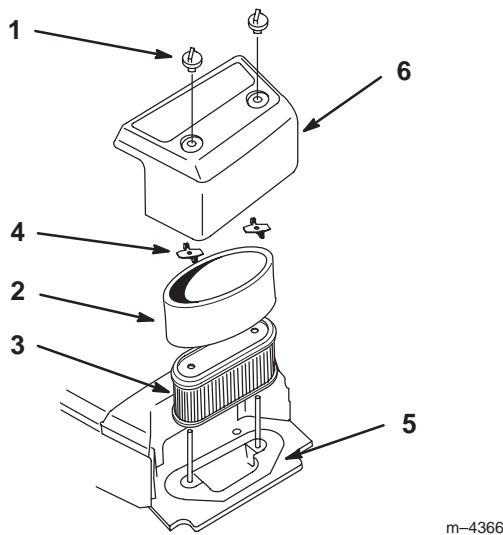

Figure 23
2. Clean around the air cleaner to prevent dirt from getting into the engine and causing damage. Remove cover nuts and cover (Fig. 23).
3. Remove wing nuts and air cleaner elements (Fig. 23).
- Carefully remove the foam element from the paper element (Fig. 23).
- Carefully slide the foam element onto the paper air cleaner element (Fig. 23).
- Place the air cleaner assembly onto the air cleaner base and install wing nuts (Fig. 23).
- Install the air cleaner cover and secure with cover nuts (Fig. 23).